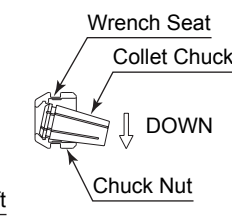
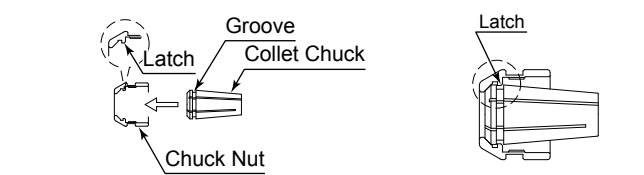
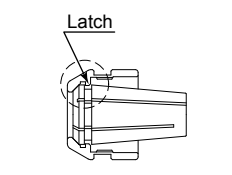

Fig. 10
Fig. 11
Fig. 12
- The collet chuck and chuck nut are secured by a groove in the collet chuck and a flange in the chuck nut. To remove the collet chuck hold the chuck nut in one hand and push diagonally down on the collet chuck. The collet chuck should be released (Fig. 10).
- To install the collet chuck, hold the collet chuck at a slight angle, and insert it into the chuck nut (Fig. 11). Press the collet chuck in the chuck nut by positioning the collet chuck in the chuck nut and pressing down on flat surface (Fig. 10). Be sure to fully engage the latch inside the chuck nut into the groove on the collet chucks outer circumference area (Fig. 12).